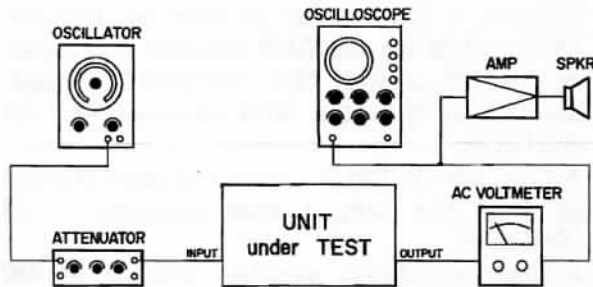

Fig. 6-4
- a. Connect measuring instruments as shown in Figure 6-4.
- 1) Connect measuring instruments as shown in Figure 6-4.